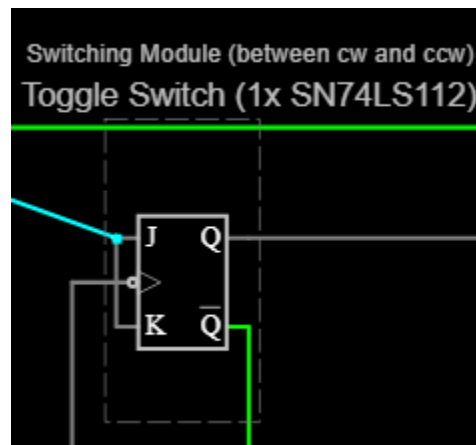

Figure 8: Switching Module
- A separate high-frequency clock can be used to drive the switching module in Figure 8 that is toggled by the joystick switch. If we want to drive the stepper at super low speeds i.e. drive the clock at low frequency, the switch needs to be held for a longer time to toggle the flip flop. This separate clock ensures that the switching module reads data at a constant frequency regardless of stepper speed.